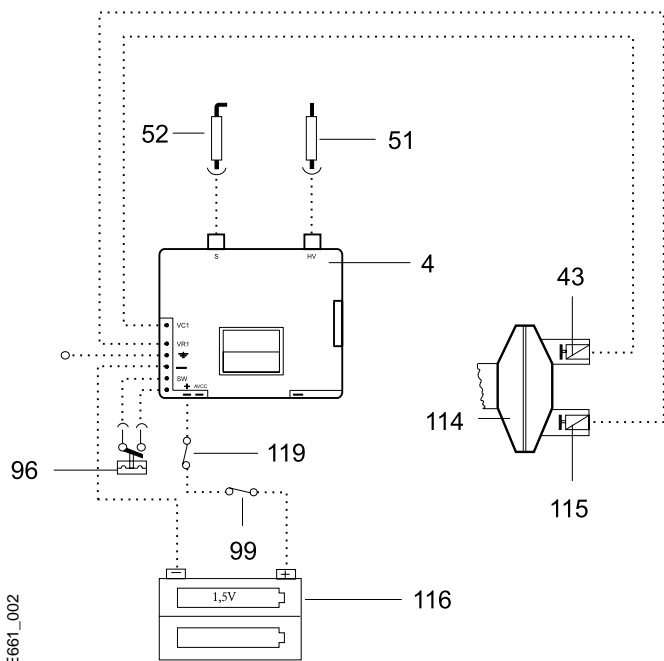

Fig. 13 - Electrical wiring diagram
5. Pilot electrovalve switch may need to be replaced (See Fig 13).
6. Electronic Control Box may need to be replaced (See Fig 13).
4. The electronic Control Box (Fig. 13) may need to be replaced.